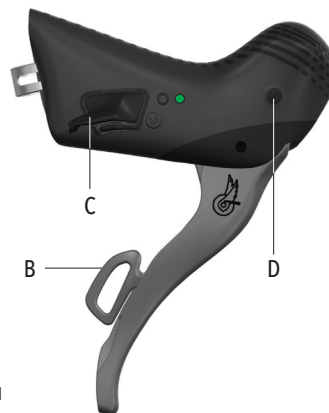

Fig.11
- By pressing the Thumb shifter, the front derailleur shifts down (C - Fig.11).
- By pressing on the Shift lever, the front derailleur shifts up (B - Fig.11).
- By pressing on the Smart button, the rear derailleur shifts up (D - Fig.11).